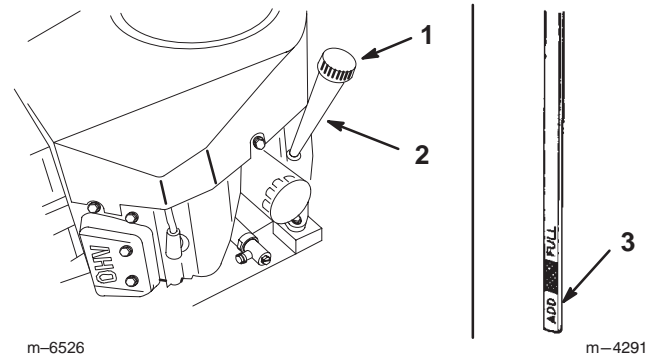

Figure 16
3. Clean around the oil dipstick (Fig. 16) so that dirt cannot fall into the filler hole and damage the engine.
4. Unscrew the oil dipstick and wipe the metal end clean (Fig. 16).
5. Slide the oil dipstick fully into the filler tube, but do not thread it onto the tube (Fig. 16). Pull the dipstick out and look at the metal end. If the oil level is low, slowly pour only enough oil into the filler tube to raise the level to the **Full** mark on the dipstick.